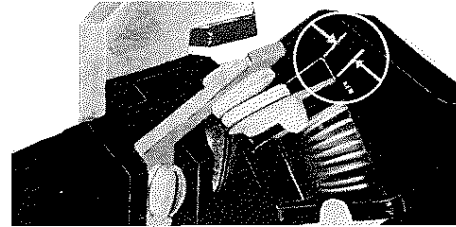

Figure 3
1. With all power removed, check that the electrical interlock (49) has the proper follow-up. With new electrical interlock contacts, the moving contacts (52) should provide at least 1/16" follow-up on each stationary contact when the contact arm reaches its limit of travel, either completely closed or completely opened (Fig. 3).